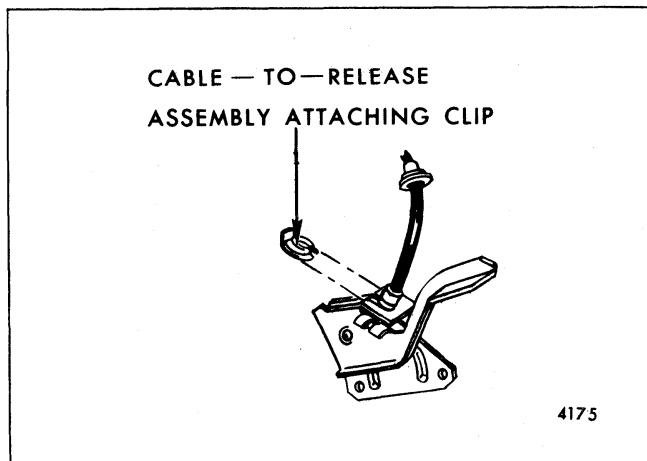

Fig. 4-24-Hood Latch Cable-to-Release Handle Attachment - "H" Body (Less "07,27" Styles)
4. To detach cable from release assembly, remove clip securing cable to release handle (Fig. 4-24).